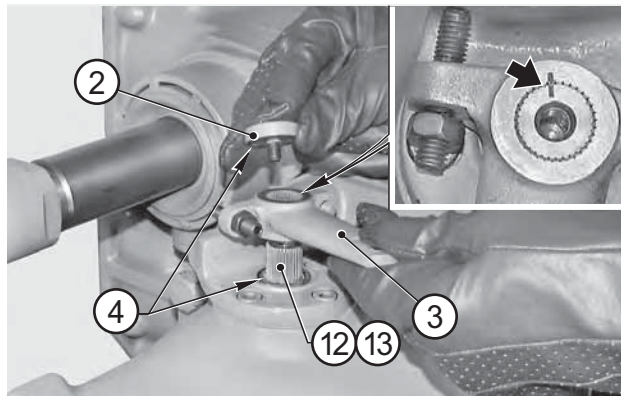

FIGURE 3: Remove washer (2), lever (3) and o-rings (4). Mark the positions of levers (3) in relation to the thrust levers (12) and (13).
FIGURE 3: Using a wrench, tighten the screws (31) in an alternate sequence by 1/4 turn at a time so as to compress the Belleville washers (1) and disengage the braking disks.